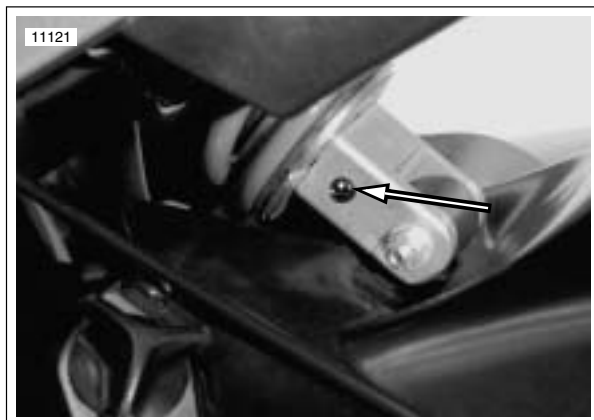

Figure 1-37. Rear Shock Rebound Adjustment Dial
1. See Figure 1-37. Using a screwdriver, turn the slotted rebound adjustment dial clockwise until it stops. This is the maximum rebound damping setting.